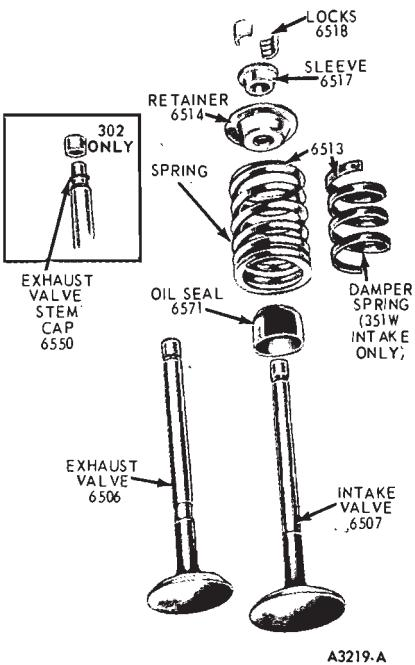

FIG. 28—Valve Assembly—302-2V and 351-W Engines
1. Install each valve (Figs. 28 and 29) in the port from which it was removed or to which it was fitted. On 302 BOSS engines, install the spring seat. Install a new stem seal on the valve.